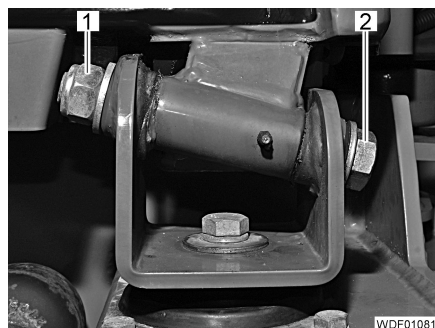

Fig. 463 Cab attachment (front)
- Unscrew the nut (Fig. 463,1).
- Drive out the hinge pins (Fig. 463,2) forwards.